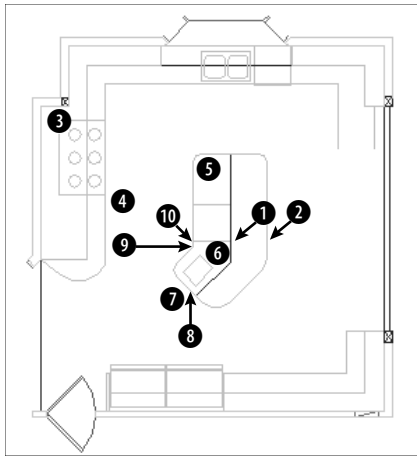

Figure 9-19: A kitchen floor plan.
1. Open `ab09-e.dwg` from the CD-ROM, as shown in Figure 9-19.
3. Draw a line from ① to ② in Figure 9-19. You will use this later to illustrate the Last selection option.
10. Turn on OSNAP. Start the MOVE command. At the **Select objects:** prompt, type **p** ↵ and then press Enter again to end object selection. At the **Specify base point or [Displacement] <Displacement>:** prompt, pick the endpoint at ⑨ in Figure 9-19. At the **Specify second point of displacement or <use first point as displacement>:** prompt, pick the endpoint at ⑩. All of the objects move.